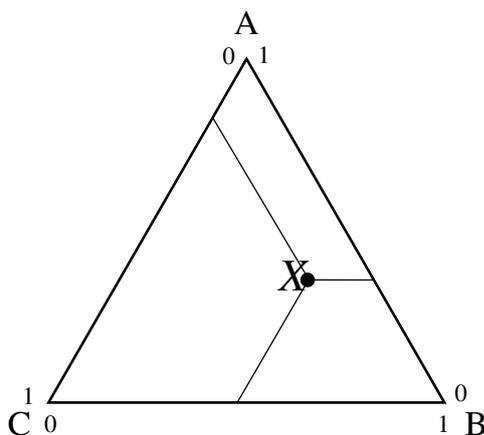

Figure 3: Example ternary phase diagram at chosen  $P$  and  $T$ .
- b) A ternary phase diagram is often drawn for constant pressure and temperature. In such a diagram, each side of the equilateral triangle represents the mole fraction of one of the three components. Show that for each point *X* in such a diagram (like in figure 3) the following equation is valid